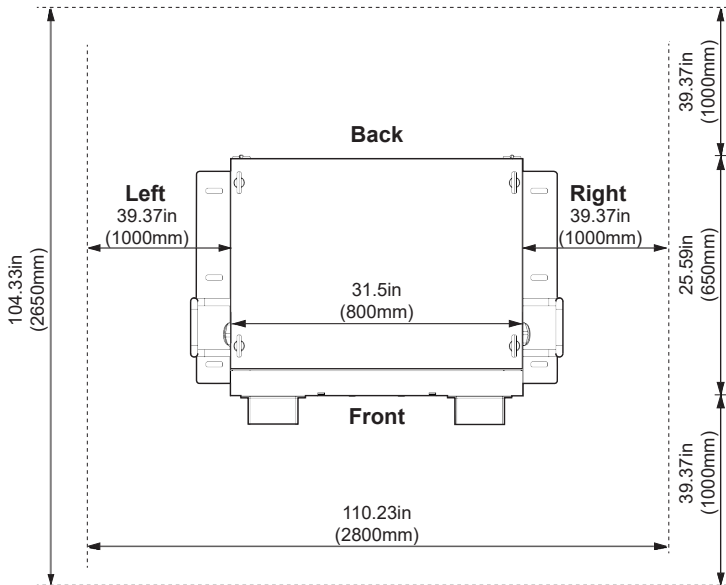

Figure 11. Placement Dimension Requirements
See Figure 11. Required a space of 104.33in x 110.23in (2650mm x 2800mm).
4) Attachment method 1: Install 4 M12 threaded rods at a length of 1.57in (40mm) per Figure 10 and Figure 11. The threaded rods need to be installed within the following tolerance of the screw holes on the EVSE: